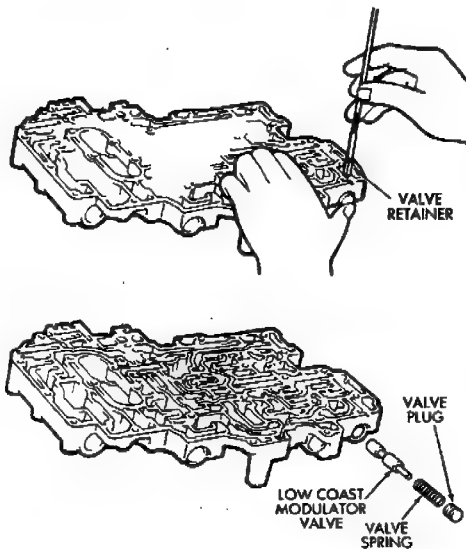

**Fig. 11 Removing/Installing Cut-Back Valve**
(5) Install cut-back valve spring, valve and plug (Fig. 11). Press plug inward and install retainer.